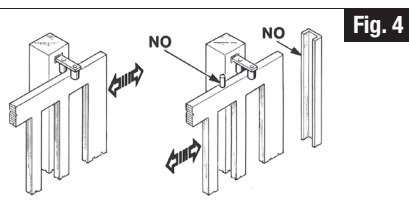

Fig. 4
- The guide must be provided with two mechanical stops at its ends (A) (Fig. 4) to avoid the unintentional gate release.
WARNING! Eliminate the mechanical stops of the kind described by Fig. 4.